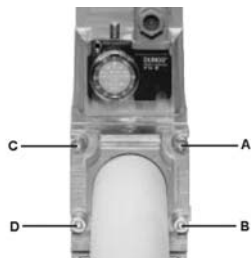

Fig. 8
1. Mount flange onto tube lines: use appropriate sealing agent (see Fig. 8);
2. insert MB-DLE: note position of O rings (see Fig. 8);